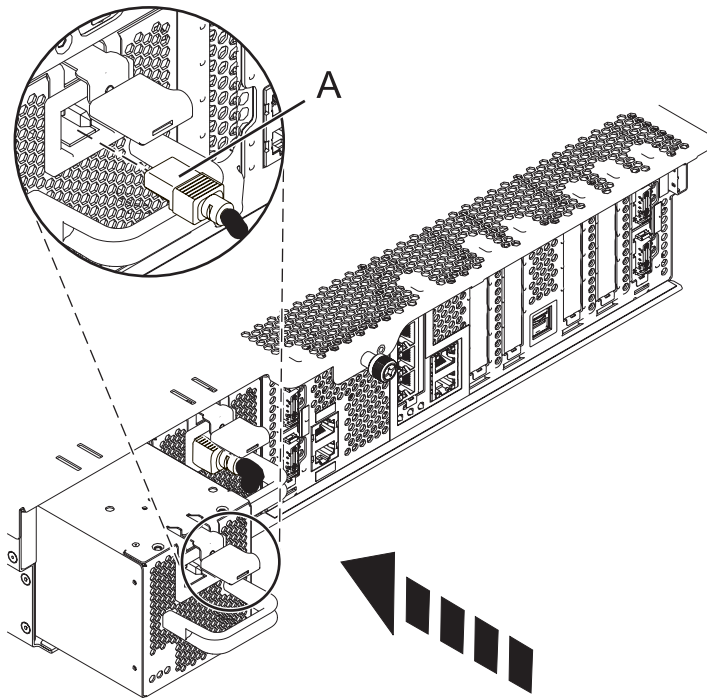

Figure 7. Replacing a power supply
2. Align the power supply with the bay and slide the new power supply into the system until the latch locks in place, as shown in Figure 7.
3. Reconnect the power cable (A) to the front of the power supply, as shown in Figure 7.